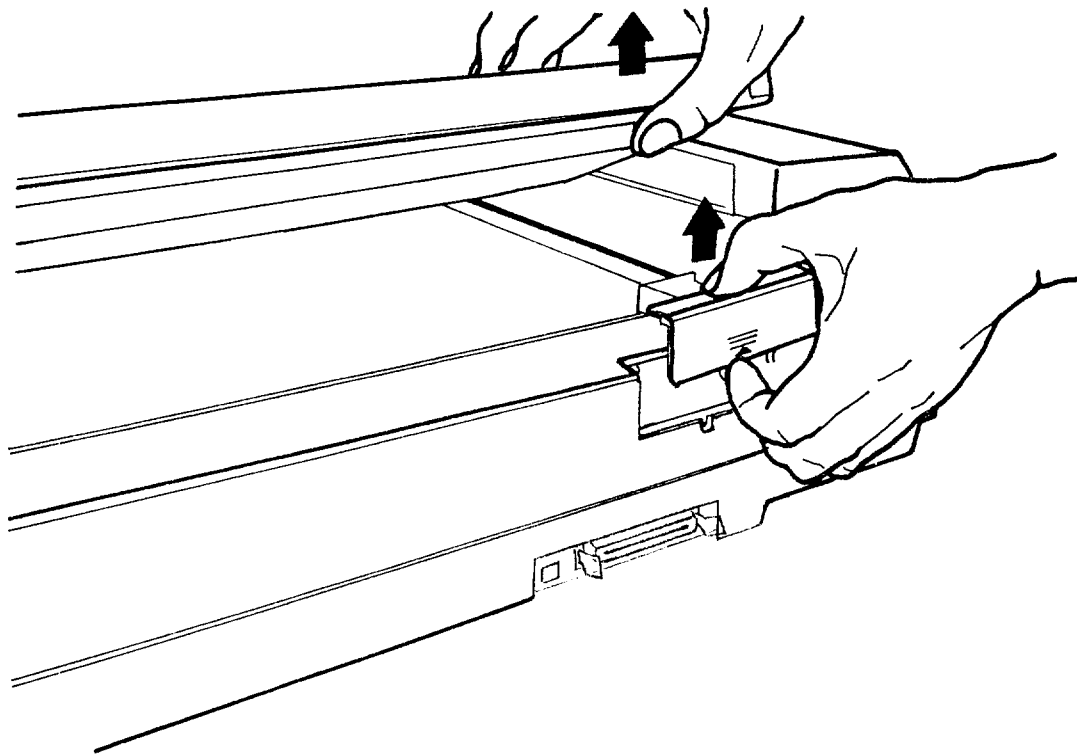

Figure 4.3 Replacement of the lamp unit:
10. Lift the rear side of the document cover, and remove the plastic plate located above the signal connector as shown in Figure 4.3.